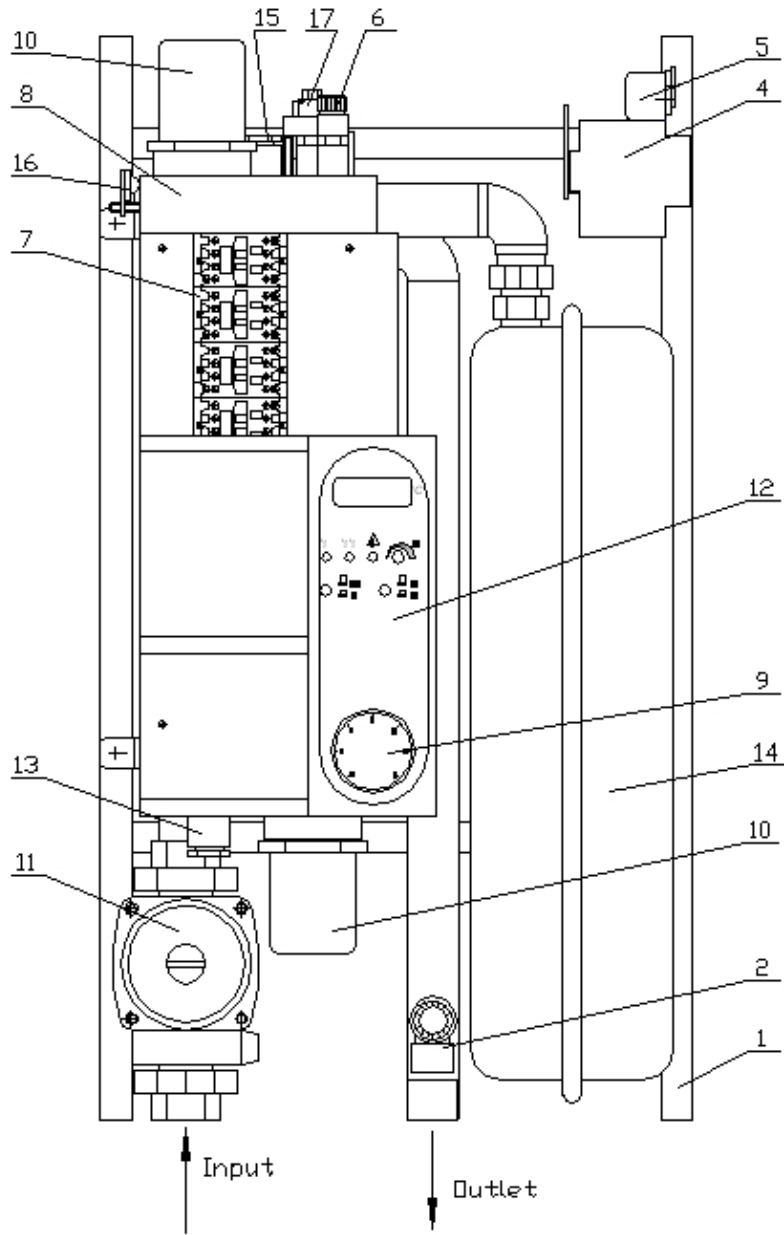
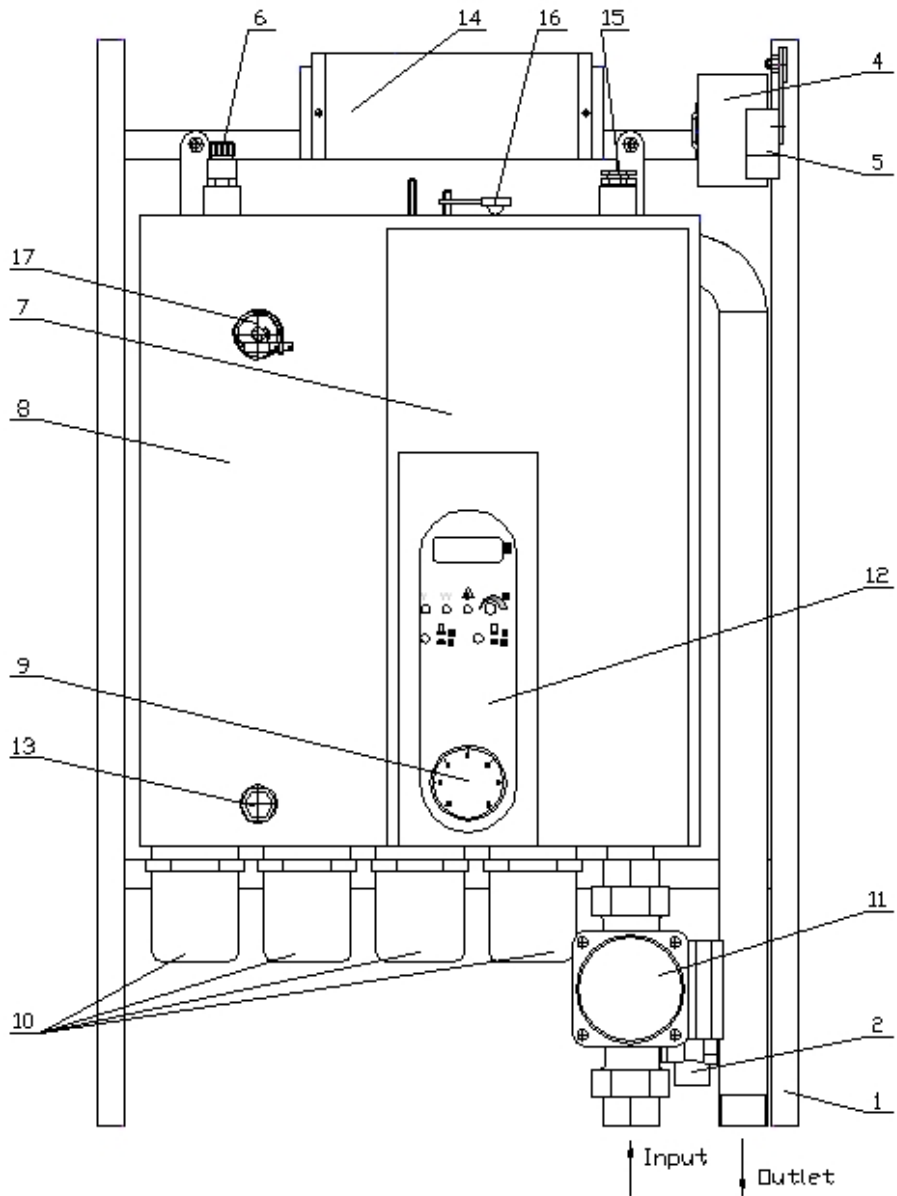
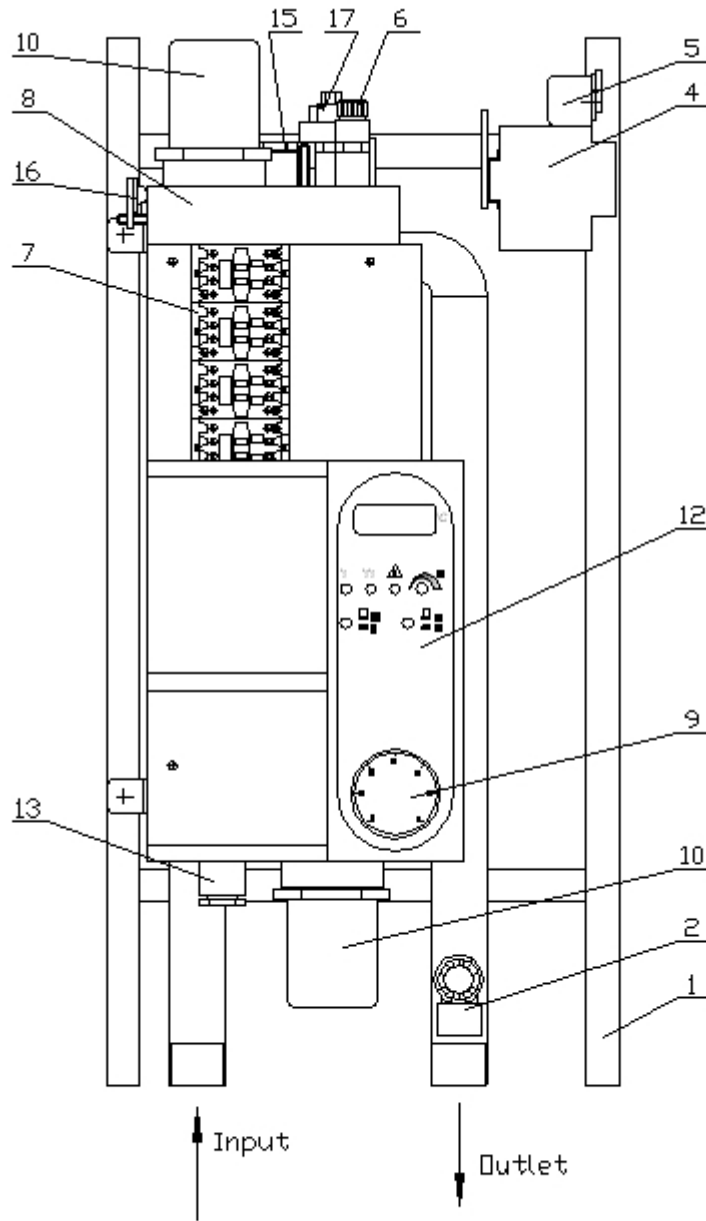
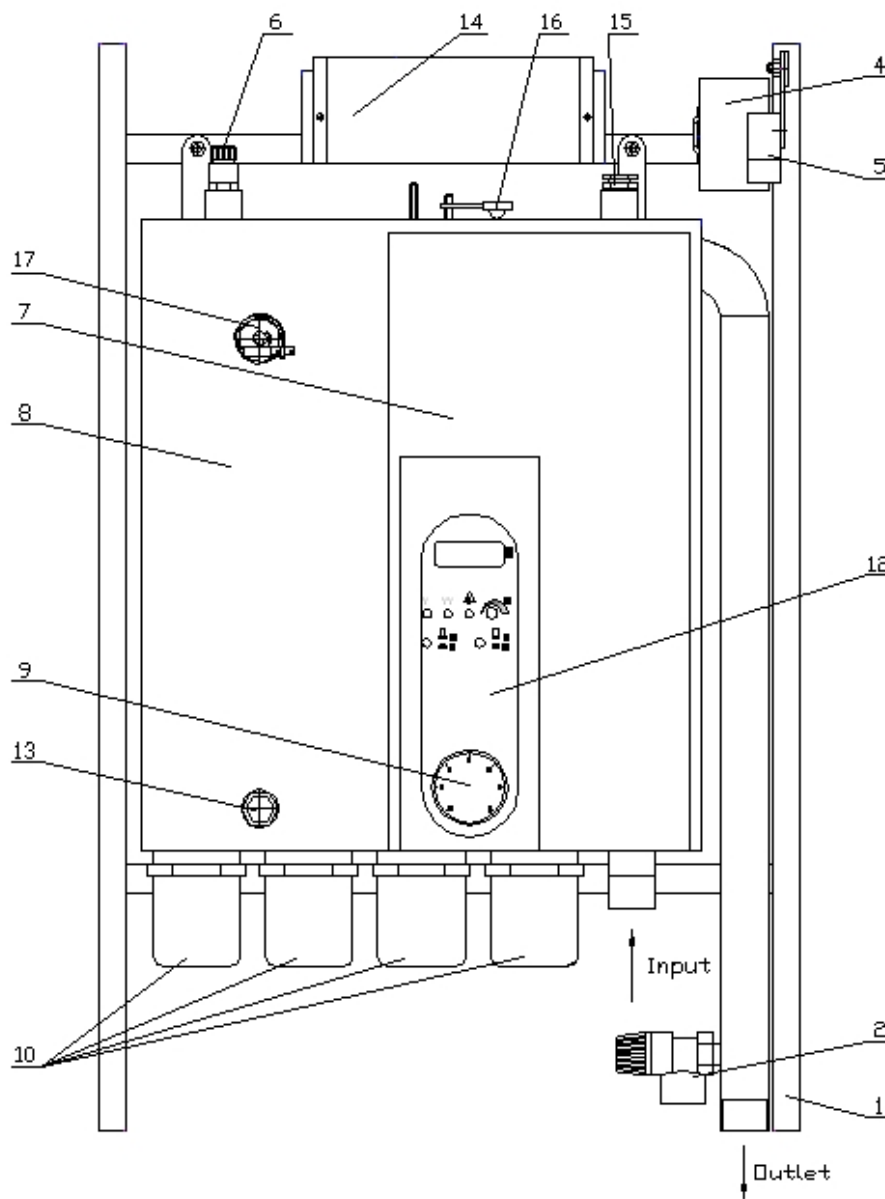

Fig. 3
Fig. 4
Fig. 5
Fig. 6
- ▶ Structure of the electric boiler/ module, see Fig. 3 page 7, Fig. 4 page 8, Fig. 5 page 9, Fig. 6 page 10.